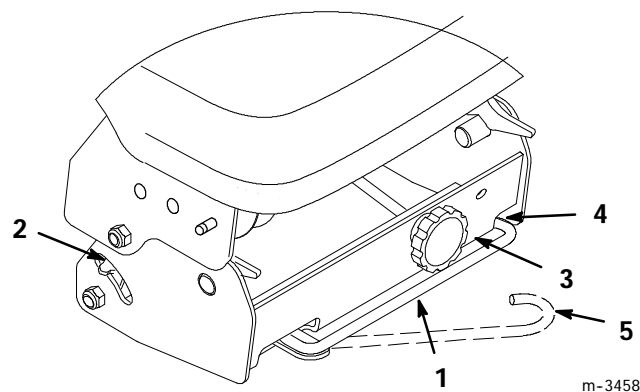

Figure 36
1. Check the tension indicators on each side of the pulley box. If the tension indicators are not in the same position on both the left and right sides, release the belt tension and turn the adjustment knob. Push the belt tension release arm back toward the pulley box to tension the belt (Fig. 36).
3. Once the indicators are in the same position on both sides, swing the tension release arm into the pulley box by moving it into the position shown in Fig. 36.